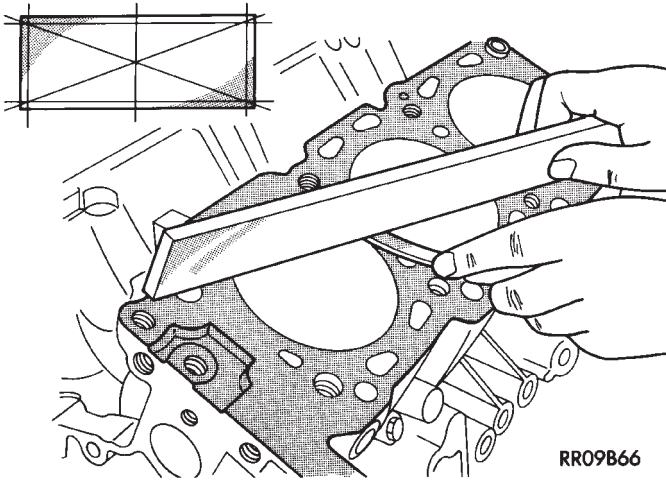

Fig. 107 Distortion Check
(1) Clean cylinder block and check top surface for distortion with a straight edge and thickness gauge (Fig. 107).
- (2) Top surface must be flat within: